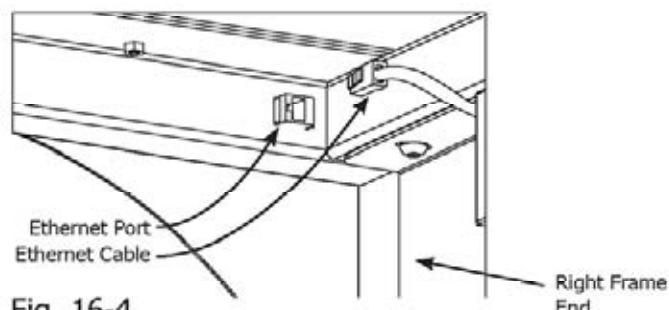
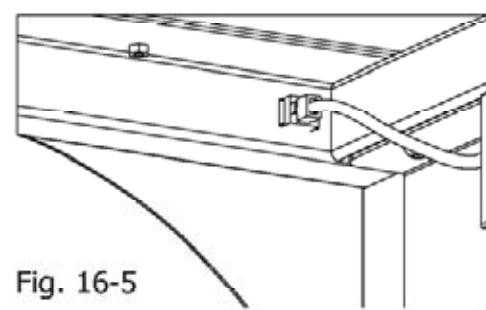

Fig. 16-4
Fig. 16-5
**16-4:** Plug the Ethernet Cables that are near the rear of the Frame Ends into the Table Assembly Ethernet Port. (Fig. 16-4 and Fig. 16-5)